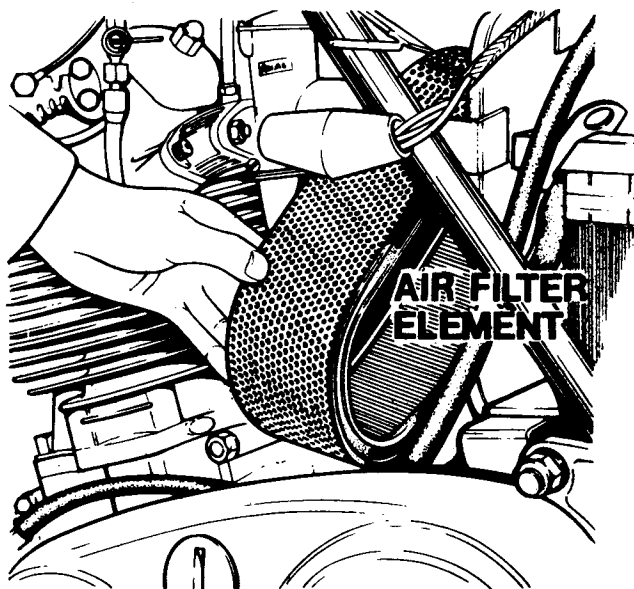

Fig. E2 Removing air filter element and gauze band
- 4 As shown in *Fig. E2*, remove the gauze band together with the element.